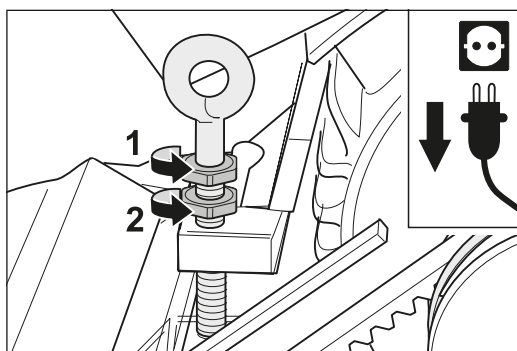

Fig. 92 Loosen the two nuts at the eye bolt at the motor.
- 3 Loosen the two nuts at the eye bolt at the motor (fig. 92) and turn them upwards.